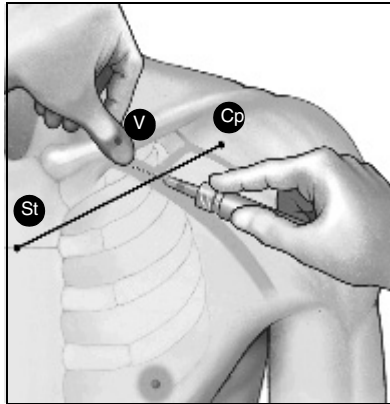

Figure 9. Location of thumb and needle entry.
4. Press a thumb against the index finger and project one or two centimeters below the clavicle to shield the subclavius muscle from the needle (when hypertrophy of the pectoralis muscle is apparent, the thumb should project about two centimeters below the clavicle because the subclavius muscle should be hypertrophied as well) (Figure 9).